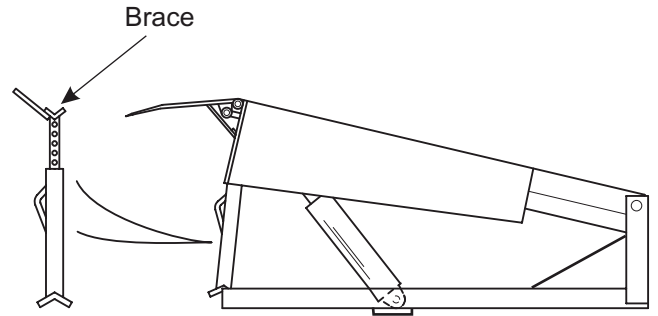

FIGURE 4 Shim
- After leveller is placed in the pit, raise the deck and securely brace it in its fully raised position. (See Figure 4)